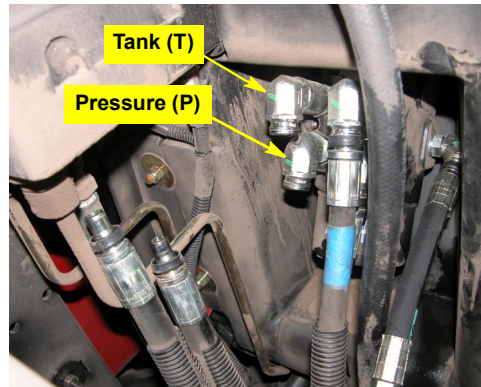

Figure 7c: Tank and pressure hoses disconnected
- c. Locate the pressure and tank ports on the machine's steering orbital stamped **P** and **T** on the casting. Using the larger #8 STC release tool **HM**, disconnect the pressure and tank hoses from the orbital (Figure 7c).